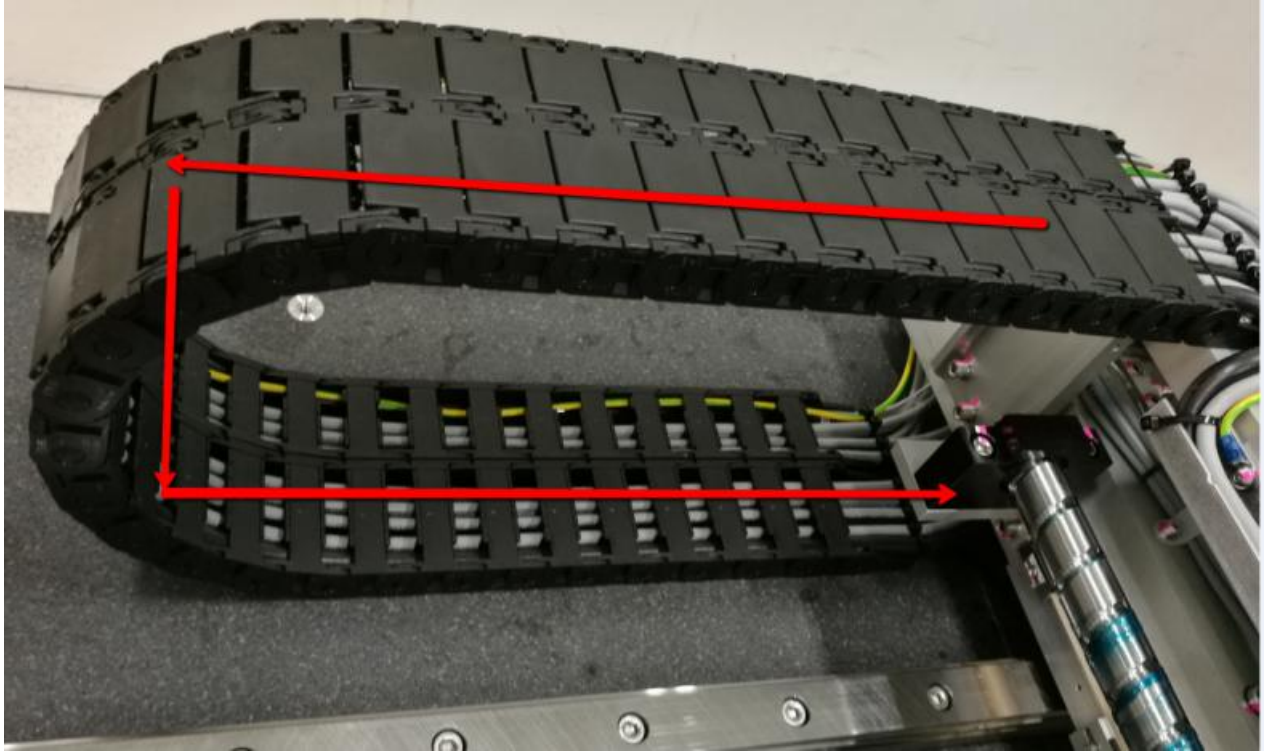

Figure 29
9. Gentle route back X-Axis encoder cable to Y-Axis E-chain. Remove necessary cable ties and close back E-chain slot covers to each partition as shown in Figure 29.